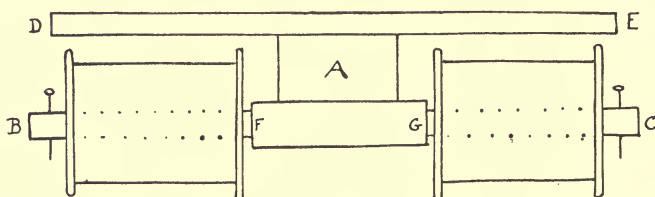

FIG. 197
(1) Small reels make good wheels for trams, motor-cars or trains. They require no sawing. Fig. 197 shows how they are
(5) There is a little instrument sold called a circle-cutter (price, 2s.), designed for cutting small circular pieces of wood from satin walnut board. It is so constructed that it will cut circles of any size up to 5 inches in diameter. This, however, is difficult for children to use.
(6) For large wheels or table-tops a circle can be drawn in a square, the corners sawn off, the obtuse corners sawn off again and then filed perfectly round. This is rather a laborious method, but quite successful. Holes can be made in the centre with a bradawl and enlarged with a round file.
(8) The fret-saw (see Part II) is very useful for making wheels.
(9) The wooden tops of gloy bottles make very good wheels indeed (especially for motor-cars). They are ready for use at once, as they have a hole in the centre. Also the tin tops of Le Page's liquid glue make excellent small wheels; a hole can easily be made in the centre by means of a hammer and a long nail or the pin stopper of a tube of seccotine.
(10) Wheels can be bought. A sheet of four wheels costs a penny. This is the least satisfactory course.
Of the various ways of making wheels described above, the methods best suited to little ones are (1), (3), (6), (7), and (9). The axles should be narrow strips of wood, with the ends rounded. Round rods do not make good axles, because they cannot be fastened securely to the bottom of the vehicle, the nailing being a difficult matter for the children. In fastening the axles to vans, carts, etc., there is no need for block A (Fig. 197); the latter is only